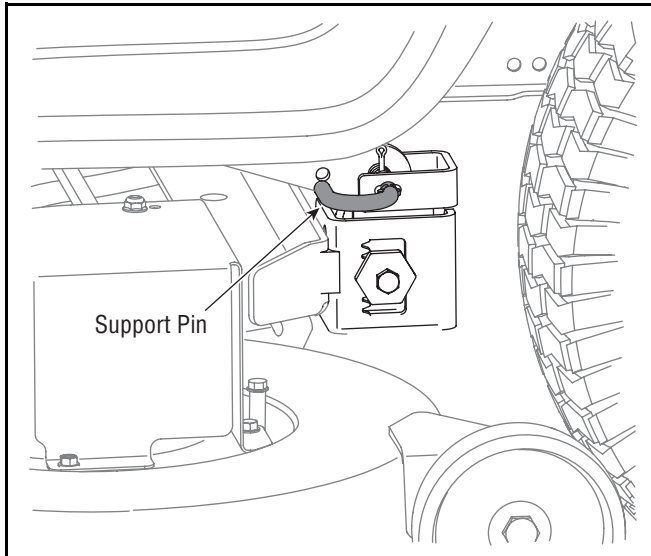

Figure 25
- Pull the deck support pin outward to release the deck from the deck lift arm. See Figure 25.